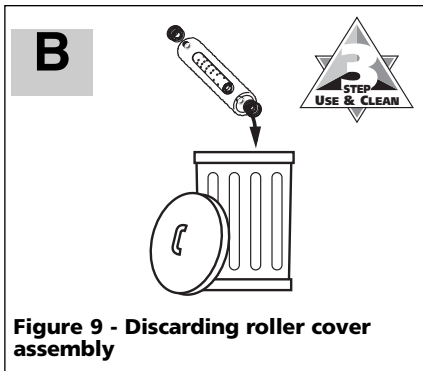

Figure 9 - Discarding roller cover assembly
- 4a. You can either rinse these pieces out in warm water to clean or discard them completely (Figure 9). The replacement roller cover kits